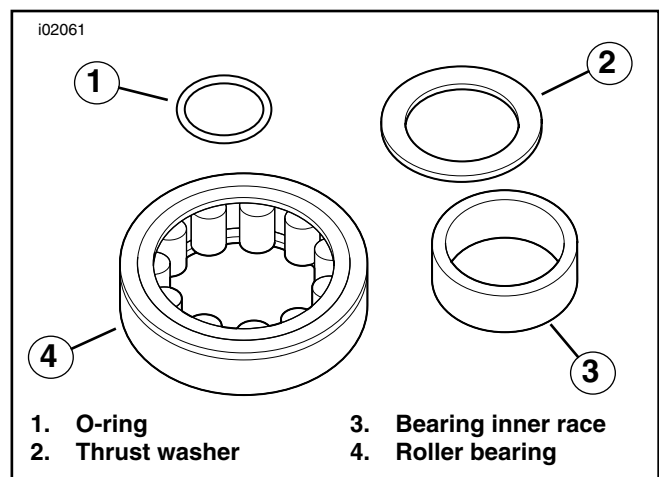

Figure 1. Rear Cam Roller Bearing Kit (Part Number 8983)
1. See Figure 1. Obtain new Rear Cam Roller Bearing Kit (Part Number 8983) from Cam Service Kit (Part Number 17045-99B) and install according to the following:
2. Install O-ring (1), thrust washer (2), and bearing inner race (3) onto rear camshaft as follows: